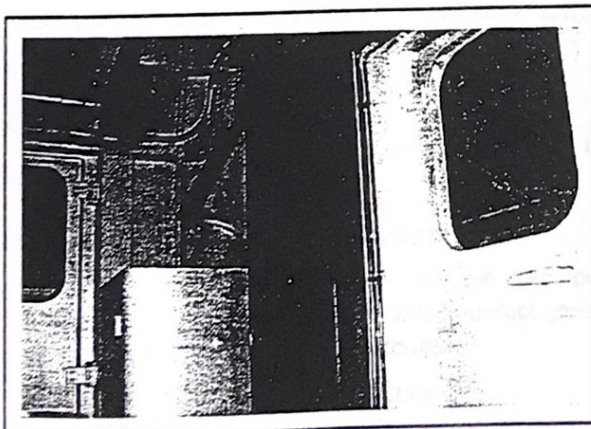

FIG. 33. SPECIAL TOOL LOCKER IN RADIATOR COMPARTMENT. E-42747.
2. Use wrench (14 mm square) from special tool locker located at the back of the Radiator Compartment (Fig. 33).